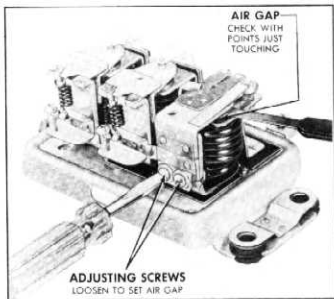

Fig. 17—Air Gap Adjusting Screws
- To adjust air gap, loosen two screws at the back of relay (fig. 17) and raise or lower the armature as required. Tighten screws securely after adjustment.
- Measure the air gap between the armature and center of core (fig. 17). This gap should be .020".